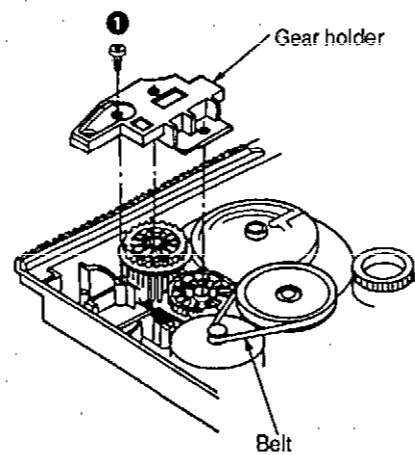

Fig. 6
9. Install the gear holder and secure it with a screw ①. (See Fig. 6.)
10. Install the belt. (See Fig. 6.)